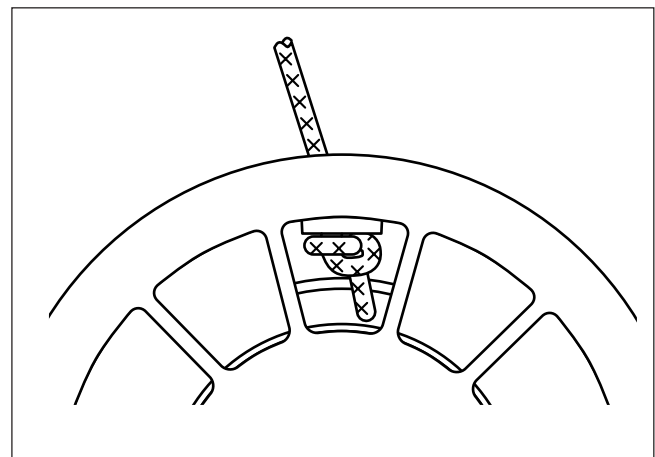

Fig. 13-9
- 3 Put the rope into the reel, taking care that the rope end does not stick up. (Fig. 13-9)